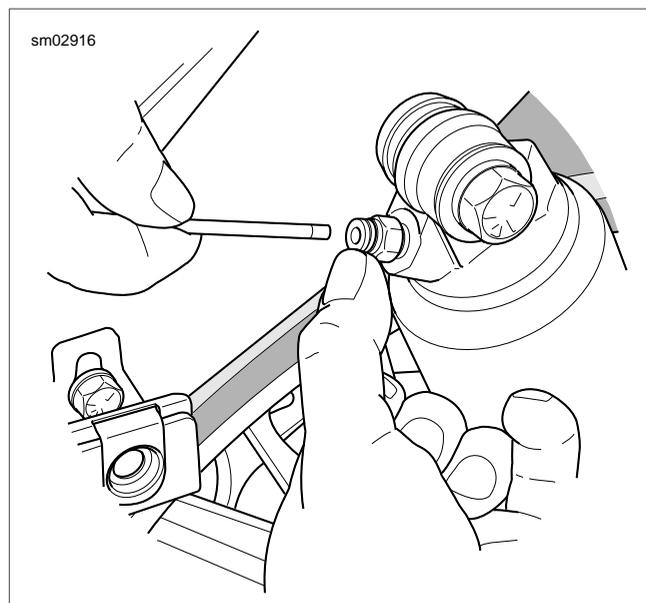

Figure 2-75. Depress Collar on Fitting and Pull Out Air Inlet Tube
5. Depress collar on compression fitting to release air tube. See Figure 2-75.